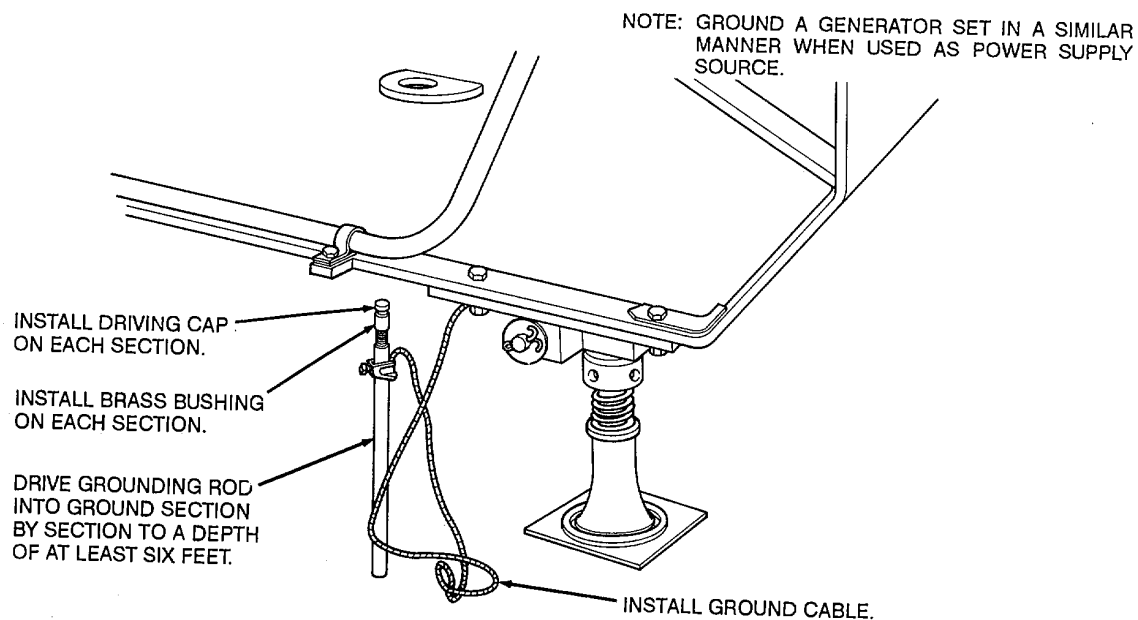

Figure 8. Grounding the roll crusher.
Warning: Do not connect electrical power or operate the equipment if the ground connection is not properly installed (fig. 8). Death by electrocution could result from improperly grounded equipment.
h. Install the ground rod (fig. 8).
- e.* Remove the ground cable in reverse of the instructions on figure 8.